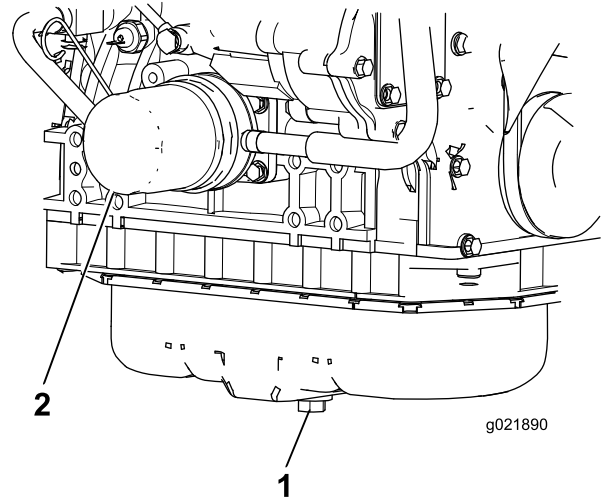

Figure 72
1. Remove the drain plug and let the oil flow into a drain pan (Figure 72).
3. Remove the oil filter (Figure 72).